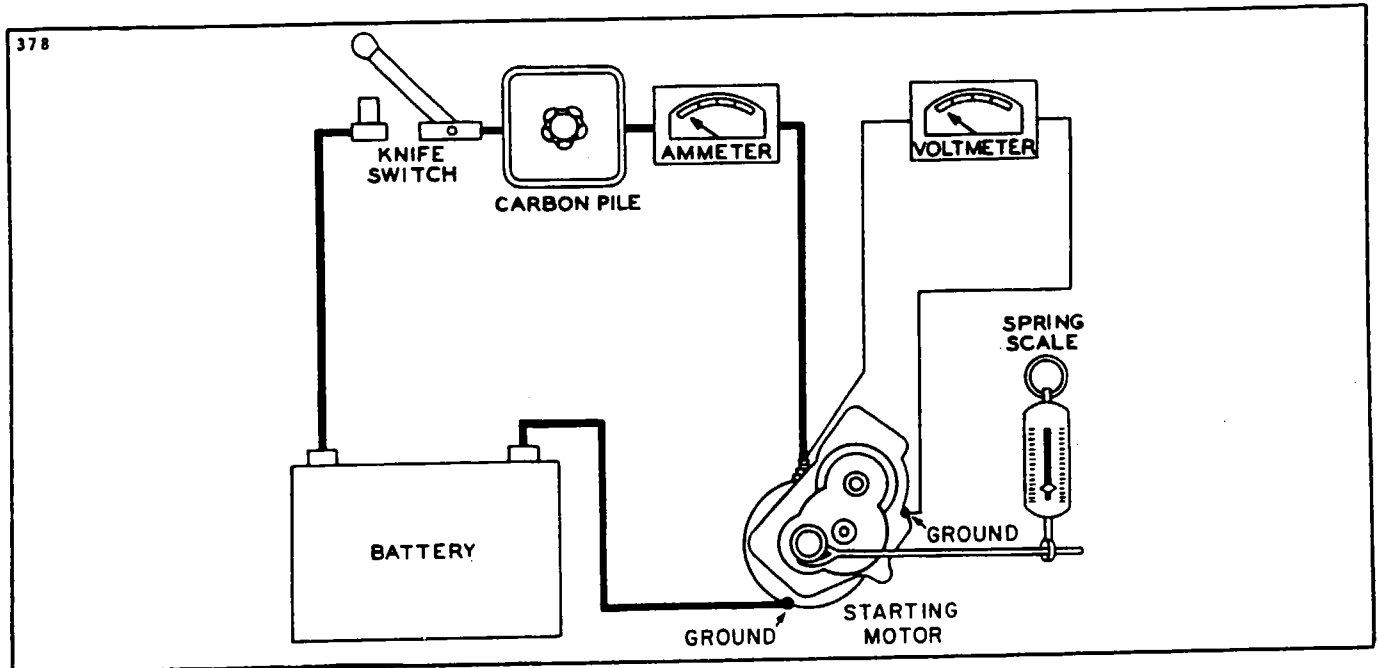

Figure 11-21. Stall - Torque Hook-Up
- b. If no difficulty is indicated in the above test, a stall torque test may be made to see if the starting motor is producing its rated cranking power. Make test connections as shown in Figure 11-21.